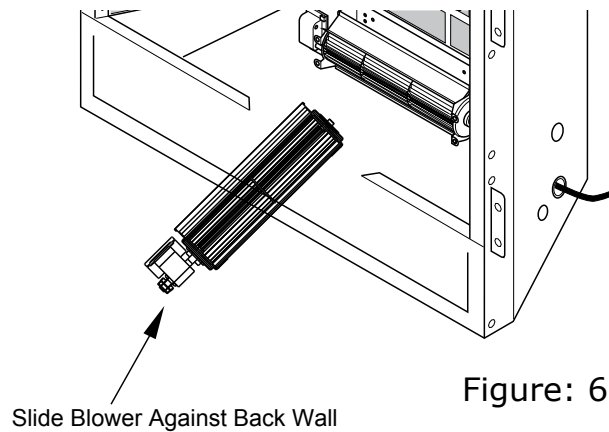

Figure: 6
Step 4: Under Firebox, wipe off the area where the fan will be mounted, this will allow the velcro to take hold. (Figures: 6 & 7)
Hold fan assembly so the fan blades face up and fan motor is furthest away from fireplace. (Figure: 6)